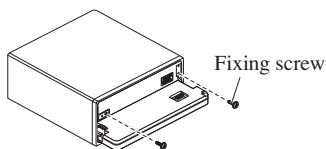

Fig. 13
4. Fix the front panel to the unit using fixing screws. (Fig. 13)